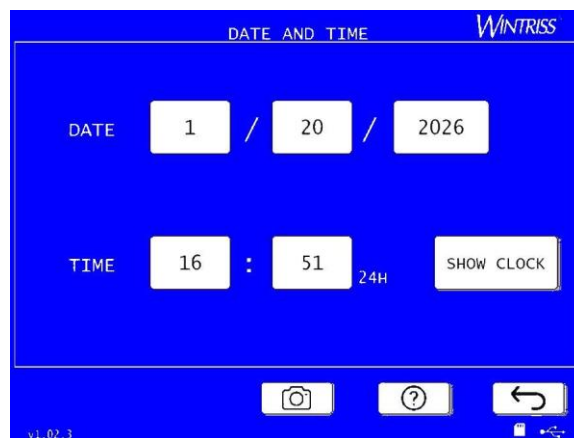

Figure 3-25. Date and Time Screen
1. On the WPC Initialization menu, Figure 3-2, page 114, press NEXT or PREV to see additional menu items. Press SET CLOCK. The DATE AND TIME screen appears, Figure 3-25.
1. Navigate to the DATE AND TIME screen, Figure 3-25, as described in the previous section.